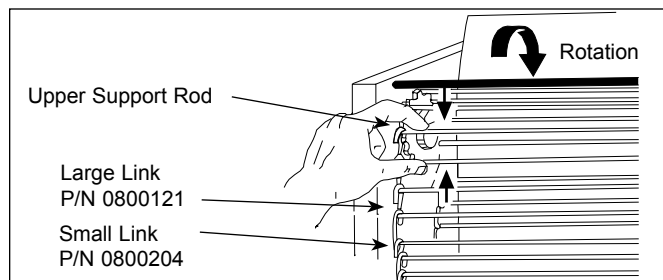

Figure 16. Removing Conveyor Belt/Chain
Over time, the Conveyor Belt Chain links will wear and the Conveyor Belt Chain will stretch, eventually causing buns to stick. This is easily remedied by removing one or more conveyor links from each side of the belt. There are two 1/2" small links on each side of the conveyor belt/chain. The rest of the links are large, 3/4" long (Figure 16).
2. To shorten a stretched conveyor belt/chain, remove one 1/2" link by squeezing two links together and then unhooking one of them at both ends (Figure 16).
NOTE: If the belt is too short to be reassembled, remove an additional 1/2" small link and install a 3/4" large link. This will shorten the belt 1/4" overall. See Figure 16 for links part numbers.
2. Place replacement conveyor belt/chain on top sprockets with link ends pointing down. Check for correct positioning (Figure 16).